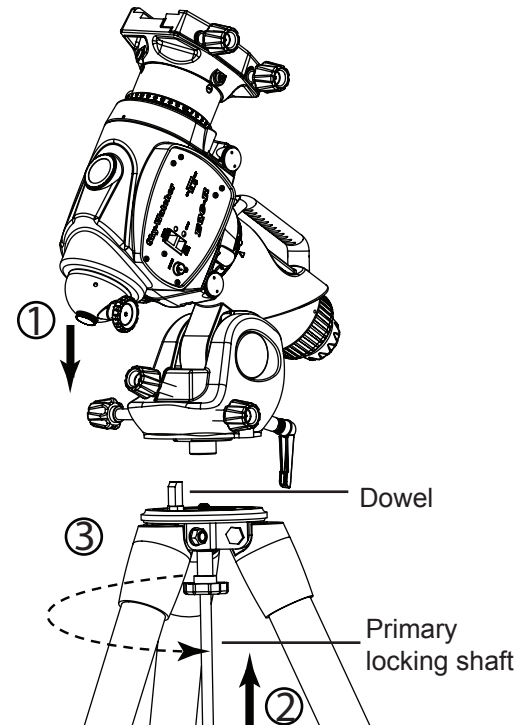

Fig. 1.2b
2. Align the metal dowel on the tripod top with the gap between the two azimuth adjustment knobs; then put the mount on the tripod top. (Fig. 1.2b)
4. While supporting the mount with one hand, gently push the primary locking shaft up against the underside of the mount and turn the shaft counter-clockwise to secure the mount to the tripod top. Tighten the shaft with the knurled knob on the primary locking shaft. (Fig. 1.2b)